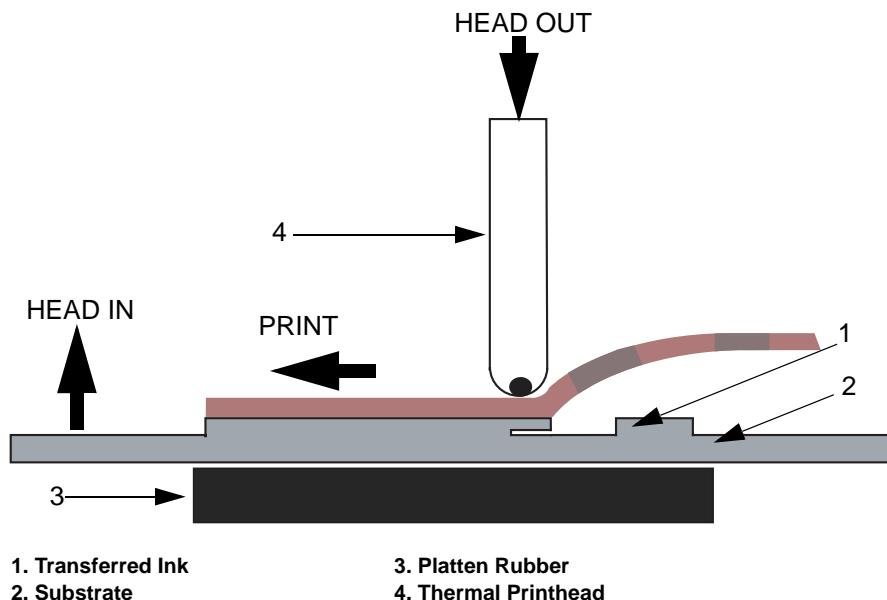

Figure 2-3: Intermittent Printing Motion
Intermittent motion printing (Figure 2-3 on page 2-4) is used for printing on stationary packaging films in packaging equipments having start/stop action each time a product is packed. Such applications can be found in intermittent Vertical Form Fill Seal (VFFS) or bagging machines, and self adhesive label applicators.
- The substrate (item 2, Figure 2-3) is stationary.
- The printhead (item 4) traverses across the ribbon (item 1) and the substrate to print.
- The printhead pushes the substrate against a flat platten pad (item 3).